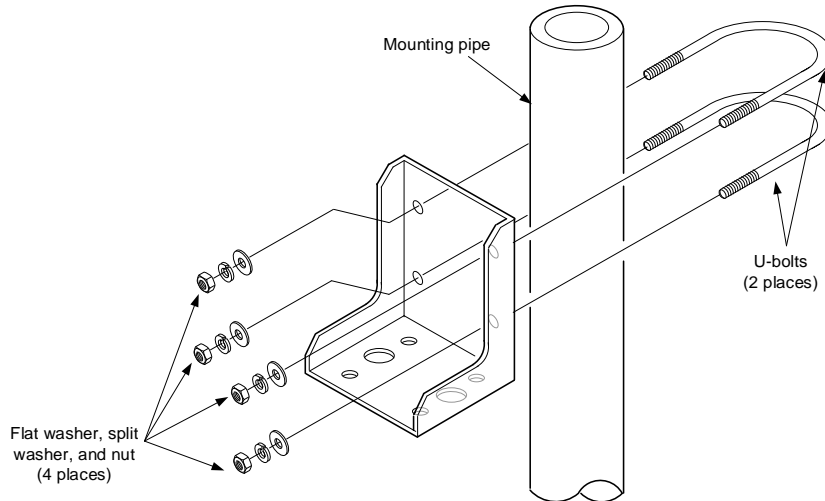

Figure 16: Pipe mounting bracket assembly
- Secure the mounting bracket to the mounting pipe with two U-bolts, flat washers, split washers and bolts (Figure 16).